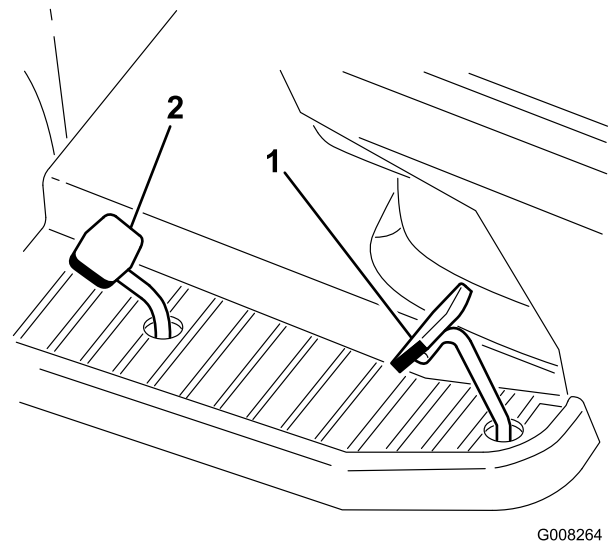

Figure 17
2. Place your foot on the traction control pedal and slowly press on the pedal to move forward (Figure 17).
2. Place your foot on the reverse speed pedal and slowly press on the pedal to move backward (Figure 17).